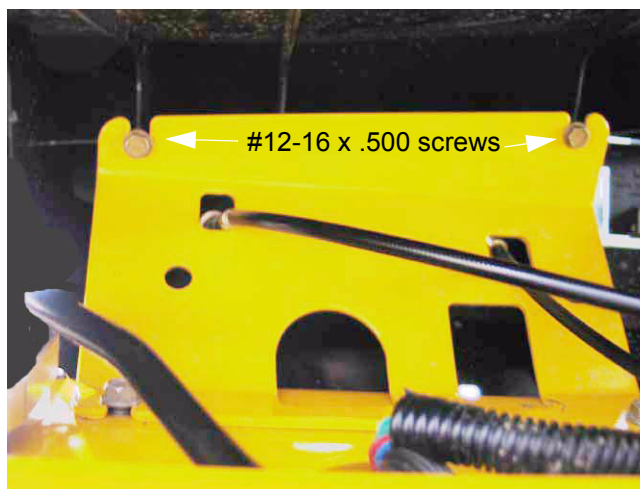

Figure 10.5
- 10.5. The two other screws are located under the console mounting bracket. See Figure 10.5.